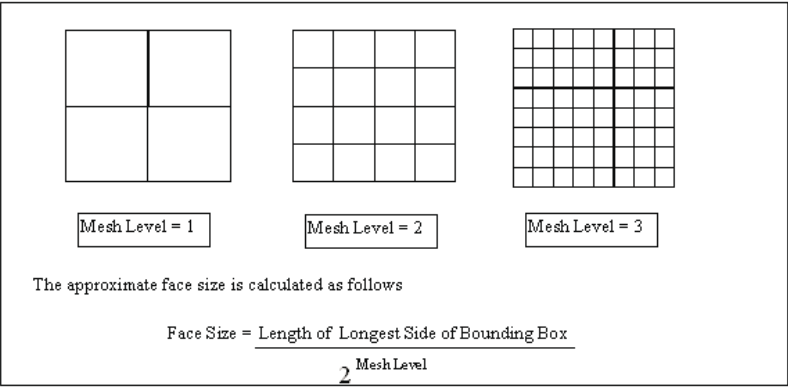

Figure 3-2: MESH LEVEL
(2) 1.2 Level which controls the average size of the faces in the mesh and therefore the quality of approximation. See Figure 3-2.